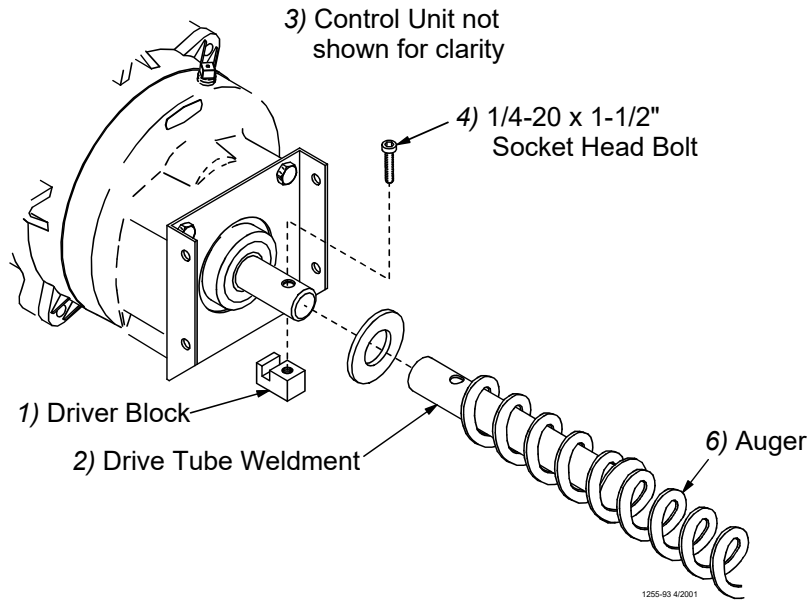

Figure 39. Auger Driver Components
4. Slide the Drive Tube and flat washer over the output shaft on the Power Unit, as shown in **Figure 39**.
6. Turn the Drive Tube Weldment into the auger, then attach to the output shaft of the Power Unit, as shown in **Figure 39**. Use the Driver Block to secure the auger to the Output Shaft.